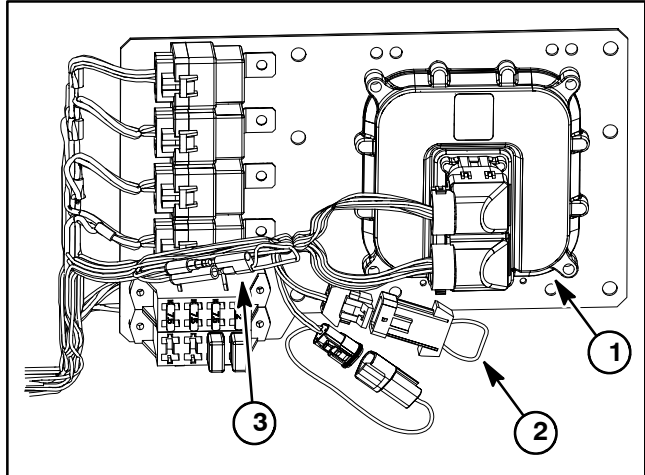

Figure 10
2. Locate Ultra Sonic Boom wire harness communication port and loopback connector (6 pin connector) located near the TEC controller on the mounting plate under the dash panel (Fig. 10). Carefully unplug loopback connector from harness connector.